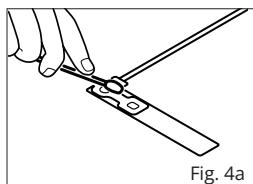

Fig. 4a
- Refer to **Fig. 4a**. For fragile skin, the stickiness of the medical grade adhesive can be diminished or eliminated by daubing the adhesive areas with a cotton ball or gauze.